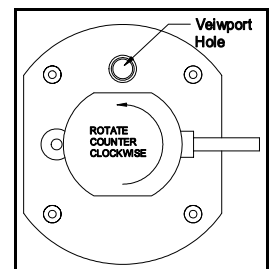

Figure 7
- Rotate the Air+Health™ ballast assembly counter-clockwise until it stops. (See Figure 7)
- Position the ballast assembly power cord 90° to the view port hole on the mounting base. (See Figure 7)